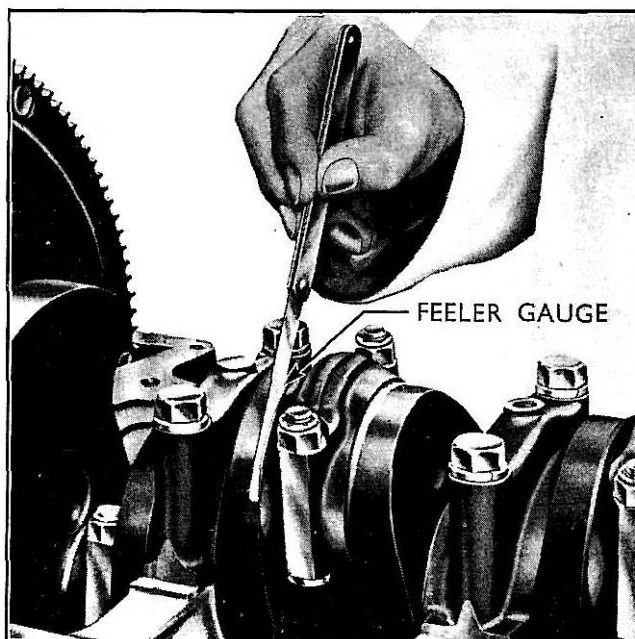

Fig. 25
- 8 Fit new locknuts and tighten to the specified torque and check the end-float by means of a feeler gauge as shown in Fig. 25.